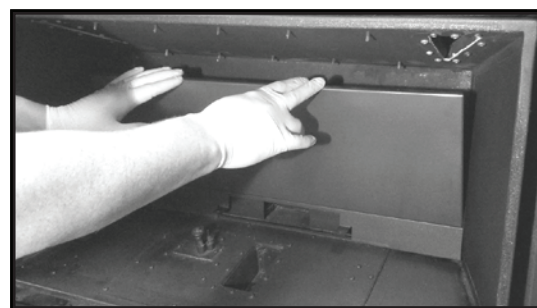

Figure 59: Back panel.
1. Insert back panel so that it is sitting on ledge at the back of the firebox (Figure 59).